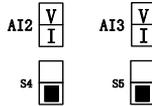

Figure 3-15 Configuring Current Modes with S4 and S5
When selecting the analog current signal input on terminals AI2 and AI3, configure the current mode through switches S4 and S5 of the terminal block. See Figure 3-15.
3.3.4 Wiring of Terminals AI2 and AI3 (As Shown in Figure 3-15)